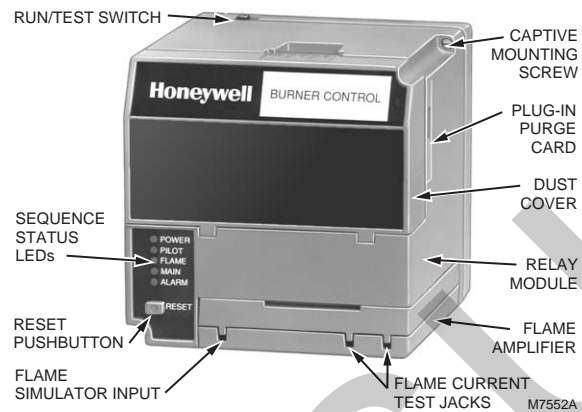

Fig. 1. Relay Module and sequence status LEDs.
- Five LEDs for sequence information. See Fig. 1.